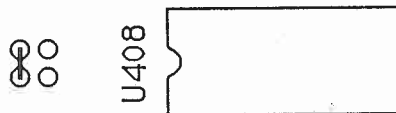

figure 13
23. On the Stretch Processor board, there are two little jumper locations near U408. The left jumper must be connected and there must be no jumper in the right two feed-throughs if Stretch is connected to a later model DX. See **figure 13**.